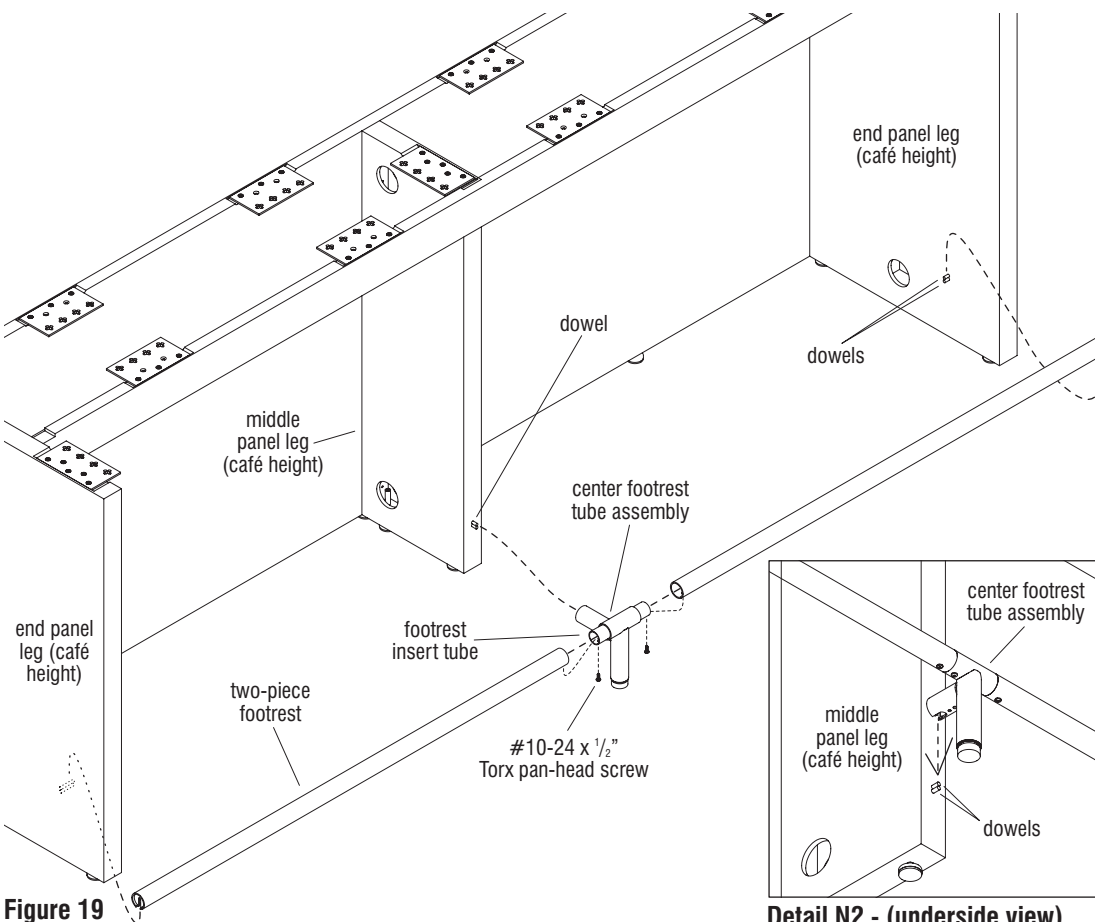

Figure 19
mounting hole of the footrest to the hole in the insert tube of the center footrest tube assembly and secure using one #10-24 x 1/2" Torx pan head screw. Do not over-tighten. Insert the other end of the center footrest tube assembly into the open end of the second two-piece footrest and secure using one #10-24 x 1/2" Torx pan head screw as above. Do not over-tighten (Figure 19 & Detail L2).
7. Take the footrest in hand with one person at each end and one person in the middle and orient the glide of the center footrest assembly to face down. The center person must hold the footrest assembly level and in alignment with the two outside people. With each outside person pressing slightly outward at the inside of the end panel legs, slide the footrest into position, taking care to not scratch the legs. At the outsides and at the center, carefully nest the slots of the footrest assembly over the inserted dowels at each end leg and at the center (Figure 19 & Details M2 & N2).